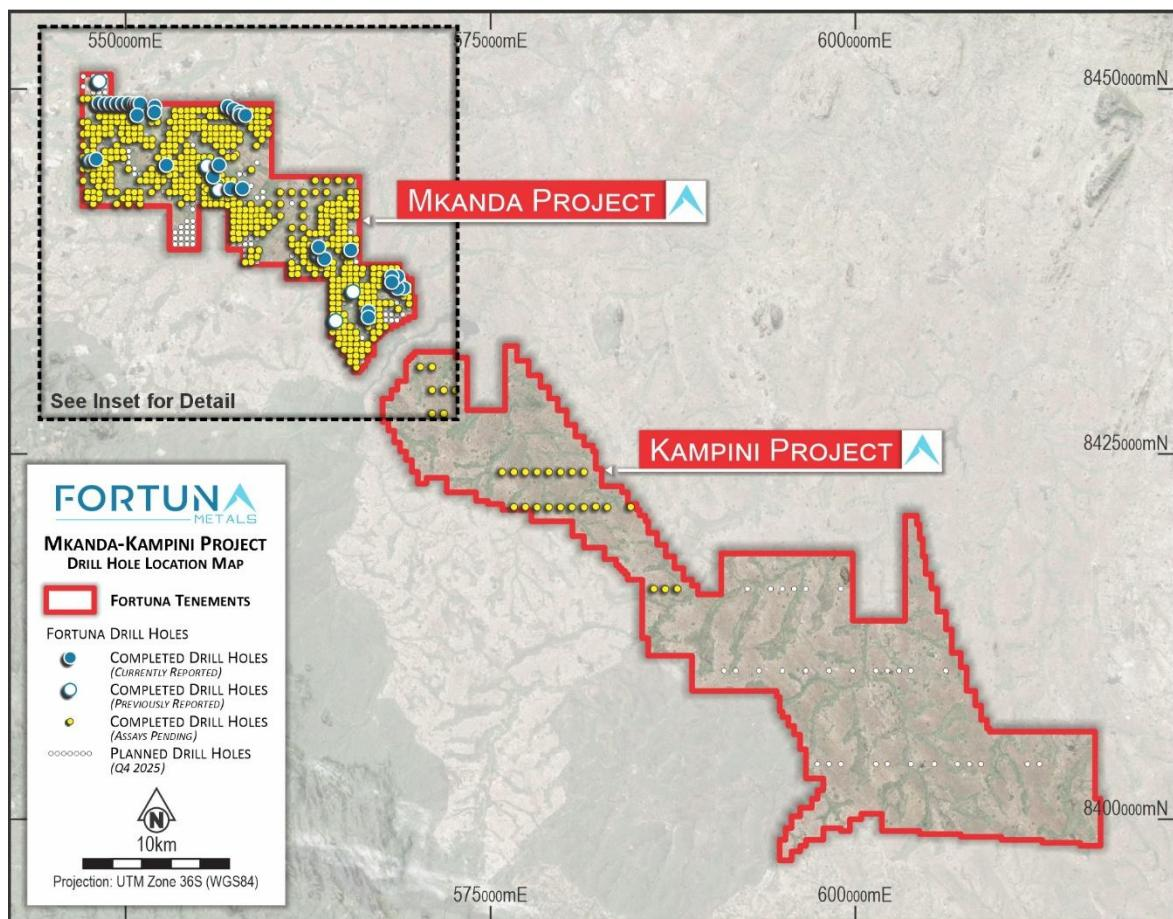

Figure 2. Drilling completed (yellow dots) and drilling planned for Q4, 2025 on 400 and 800m grids (white dots).
- Significant rutile discovery confirmed with new high grade results demonstrating large areas at Mkanda hosting rutile mineralisation with 675 drillholes completed to an average depth of 8m, Figure 2